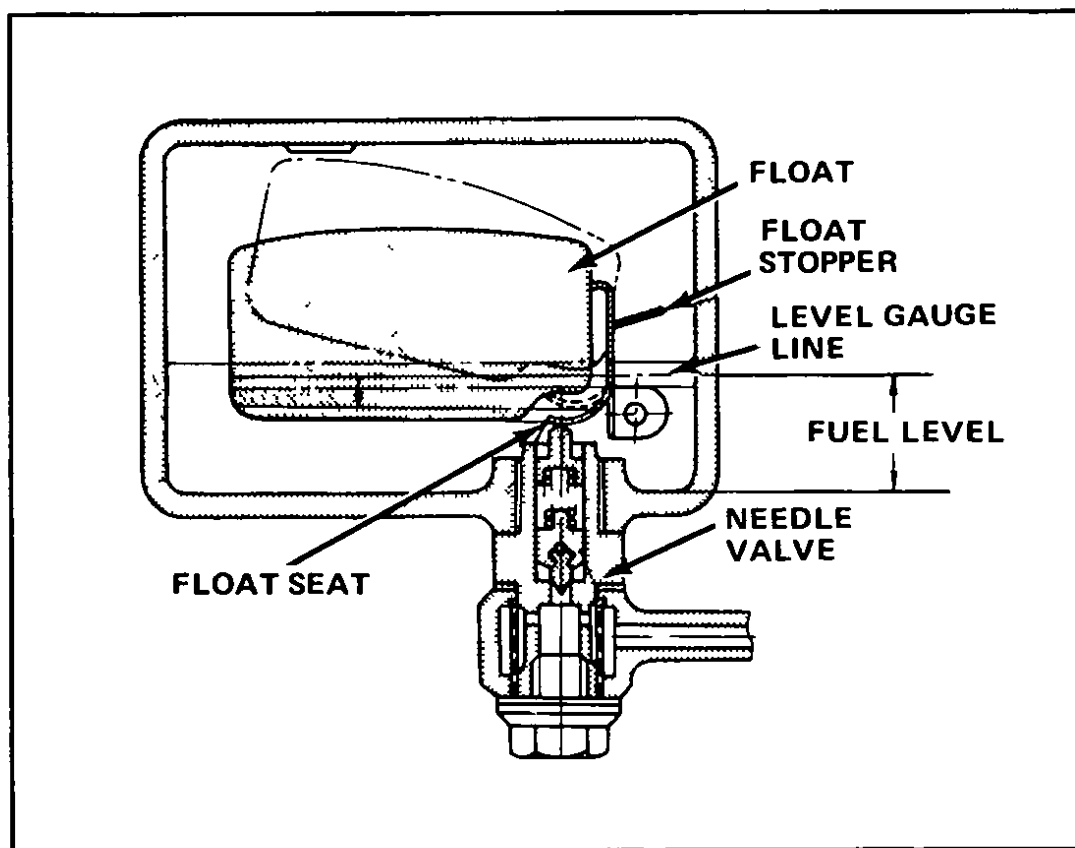

Fig 46 Float level adjustment
- 5 Adjust the float position by bending the float seat until the upper part of the float level is lined up with the line on the window assembly, Fig 46 You can check this by loosely repositioning window assembly and checking float alignment